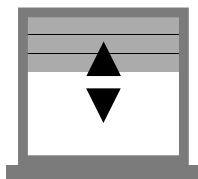
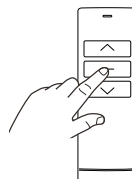

Fig. 22
Fig. 23
9. Setting the middle position Move the roller shutter to the desired position and stop it. Activate the **learn button** on the "Master Transmitter" **2 x** (Fig. 22) and press the **STOP button** (Fig. 23). The motor confirms this input by briefly turning once in one direction. The middle position has been successfully learned.